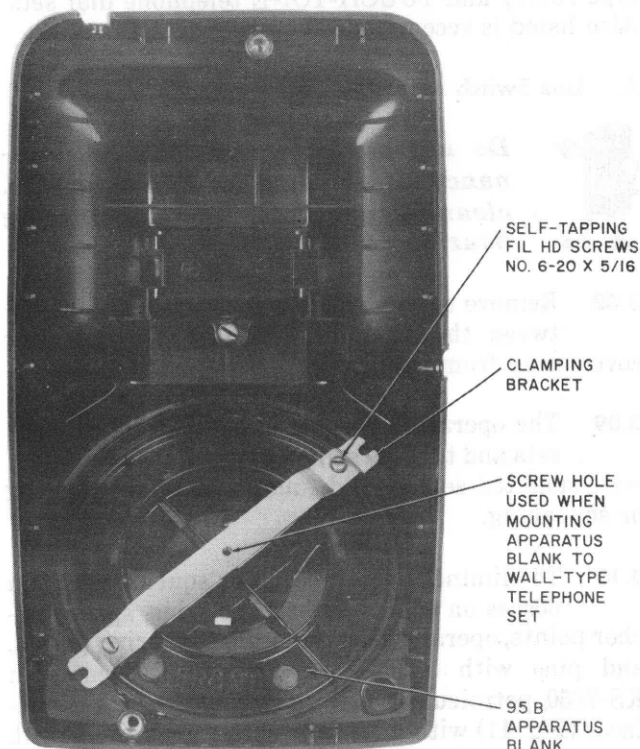
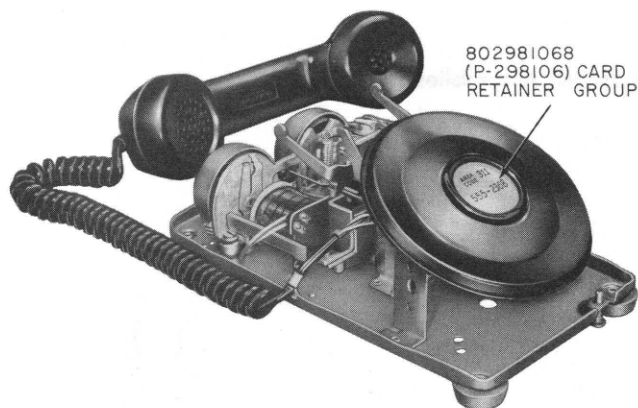

Fig. 8—500-Type Telephone Set With 95B (MD) Apparatus Blank
Fig. 10—95C Apparatus Blank on Dial Mounting Bracket in 500-Series Telephone Set
C. Apparatus Blanks (Fig. 8, 9, and 10).
2.09 The 95A (MD) apparatus blank is intended for use on rotary dial sets equipped with three-point dial mountings only. The 95B (MD) (Fig. 8 and 9) is intended for use with all other rotary dial sets (bracket must be inverted for wall sets). The 95C (early model) fits on dial mounting bracket and (current model) can be used on two or three point dial mountings (Fig. 10).